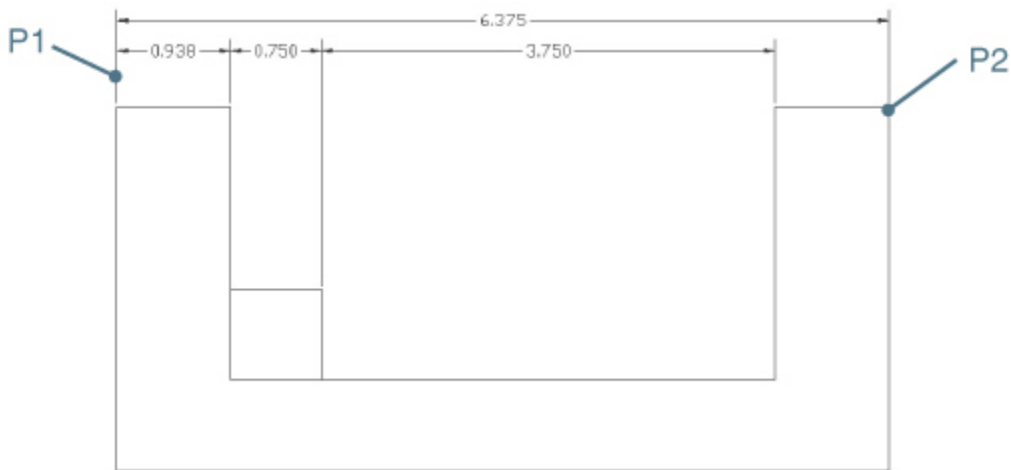

Figure 13-32
- 7** Choose the extension line at P1 shown in Figure 13-32. AutoCAD prompts you to *Specify a second extension line origin or ↓*.
- 8** Select the end of the line at point P2 shown in Figure 13-32. AutoCAD automatically spaces the dimension above the selected dimension.
- 9** Save your drawing as **CH13_EXERCISE7**. Your drawing should look like Figure 13-32.